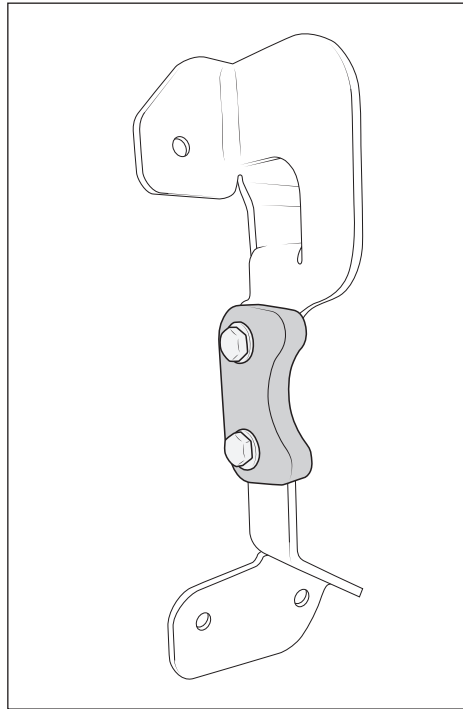

Figure 10
1. Install the plastic Saddle Block using the 3/8"x 1" bolts with 3/8" washers under the head of each bolt. Install the bolts into the holes on the Saddle block. Use the 3/8" Flange nuts on the inside surface of the AEV Tire Carrier Bracket. Adjust the Saddle Block to its MIDDLE adjustment (fig. 10).